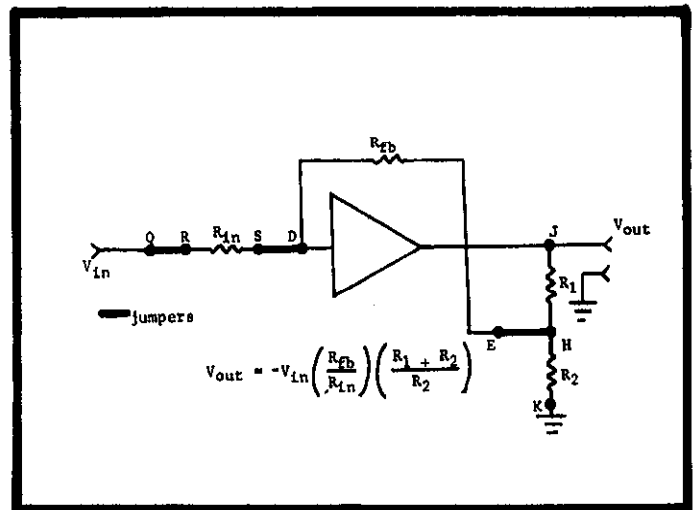

FIGURE 15. Voltage Amplifier With Fractional Feedback.
c. Connections for the Model 300 as a voltage amplifier with fractional feedback (Figure 15):